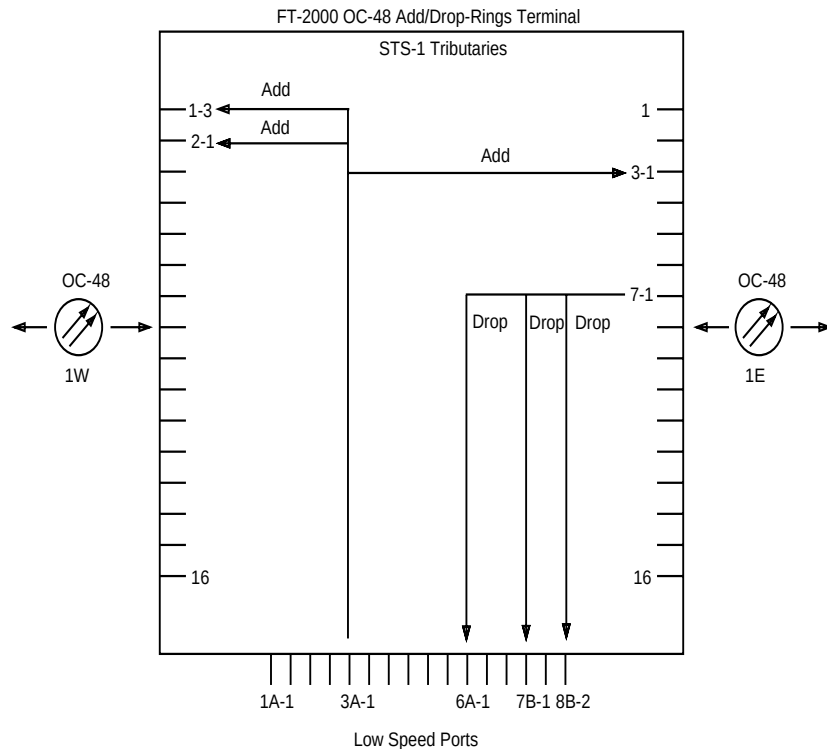

Figure 8-11. Multiple STS-1 Bridge Cross-Connections at an FT-2000 OC-48 Add/Drop-Rings Terminal
- Multiple bridge cross-connections:** A multiple bridge cross-connection is three or more superimposed cross-connections sharing the same source. The source can be any incoming STS-1 tributary of OC-48 high-speed line 1E or 1W, or any service low-speed port. For example, Figure 8-11 shows incoming service STS-1 tributary 1 of STS-3 tributary 7 (7-1) on OC-48 high-speed line 1E cross-connected to service low-speed port 1 of slot 6A (6A-1), port 1 of slot 7B (7B-1), and port 2 of slot 8B (8B-2). Figure 8-11 also shows service low-speed port 1 of slot 3A (3A-1) cross-connected to service STS-1 tributary 3 of STS-3 tributary 1 (1-3) and STS-1 tributary 1 of STS-3 tributary 2 (2-1) on OC-48 high-speed line 1W, and service STS-1 tributary 1 of STS-3 tributary 3 (3-1) on OC-48 high-speed line 1E.